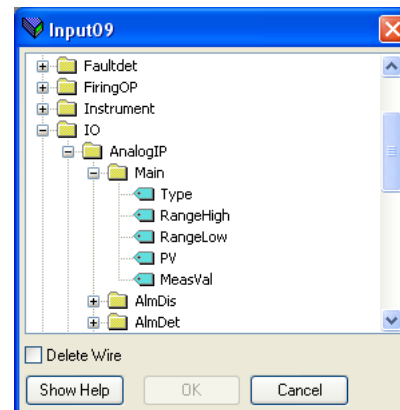

Figure 8.132 Browser window
1. Double click the next available position in the input or output data table and select the variable to assign to it. A pop-up (figure 8.132) provides a browser from which a list of parameters can be opened.